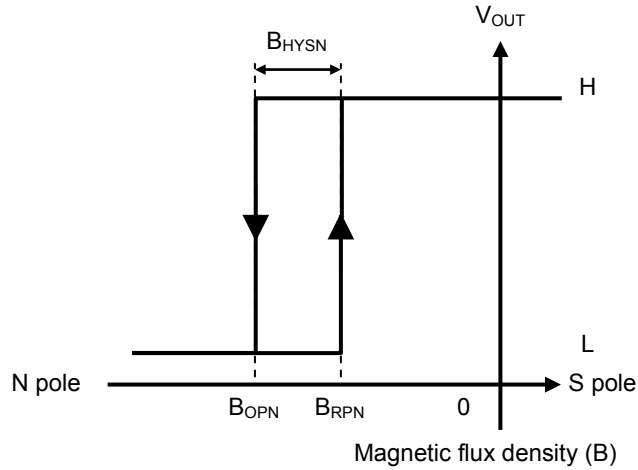

**Figure 17**
**Figure 17** shows the relationship between the magnetic flux density and  $V_{OUT}$ .